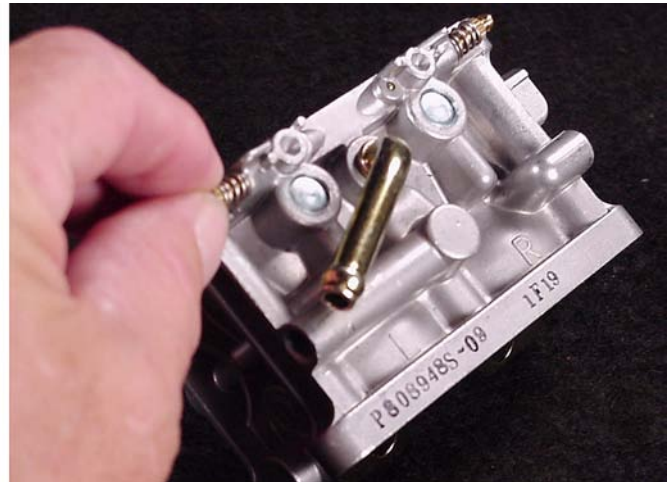

Fig. 123
6. Remove idle mixture screws and springs, Fig. 123.